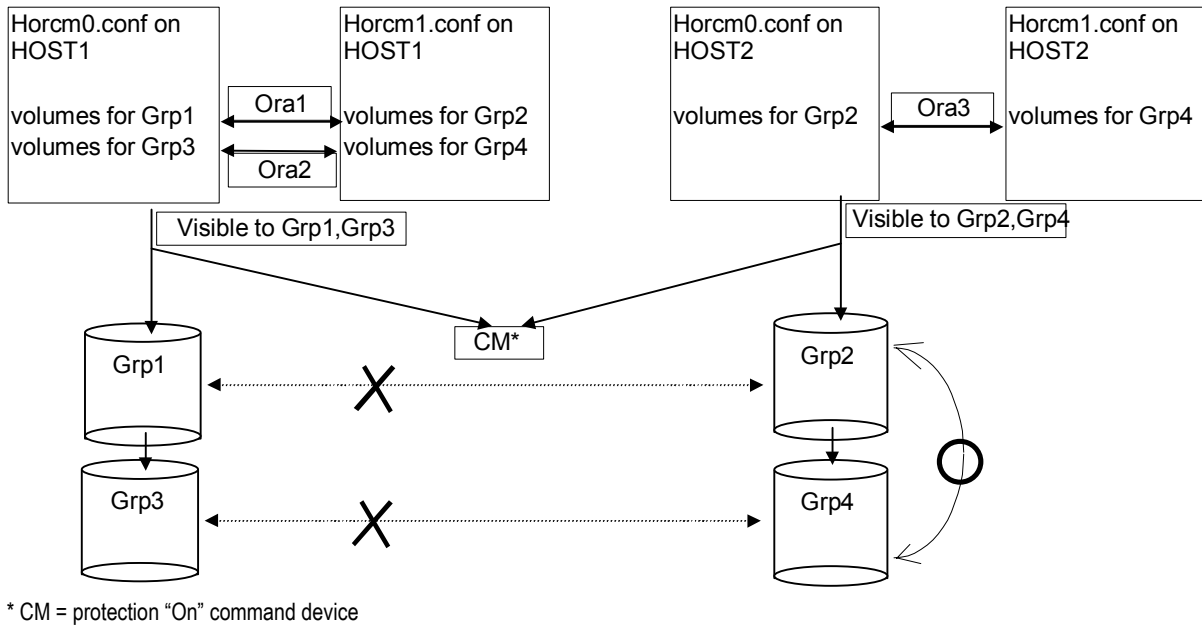

Figure 4.52 Example for the One Host Configuration
Case (2): One Host (Figure 4.52). In protect mode Ora1 and Ora2 are rejected to be operate the paired volume, because of Unknown for Grp2 and Grp4 on HOST1. If HOST1 has a protection OFF command device, then Ora1 and Ora2 are permitted to be operate the paired volume.